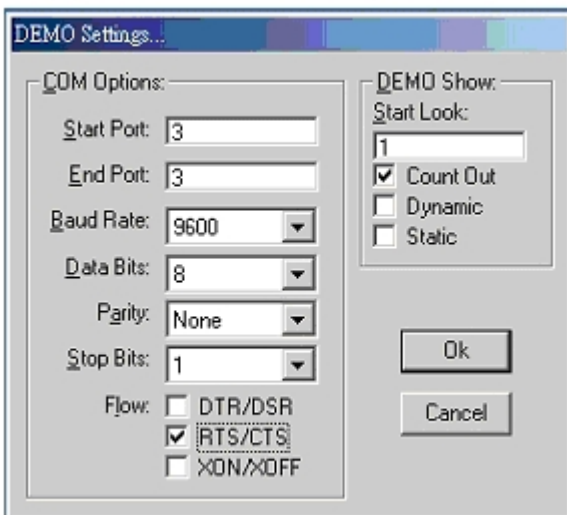

Fig.7
Step3. Click the "Setting" to set the RS-232 loop counter (See the Figure 7); your system will detect COM3.